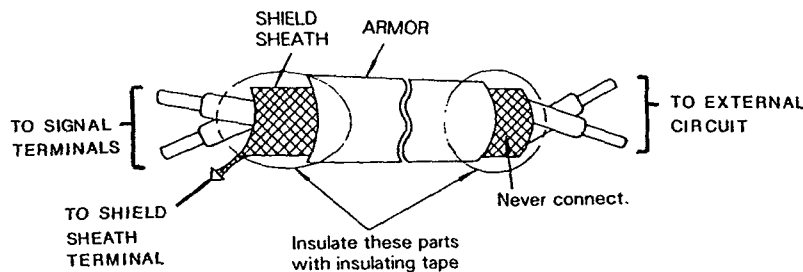

Figure 3. Shielded Sheath Termination
- Use **twisted shielded or twisted-pair shielded wire, 20-14 AWG (0.5-2mm²), for all control circuit leads**. Wire size should be determined considering voltage drop in leads. See Figure 3: connect shield sheath **AT THE INVERTER END ONLY**; the far end should be dressed neatly and left unconnected.